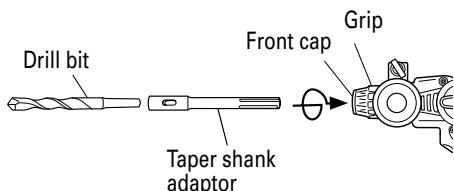

Fig. 24
(1) Mount the taper shank adaptor to the rotary hammer. (Fig. 24)
(2) Mount the drill bit (taper shank) to the taper shank adaptor. (Fig. 24)